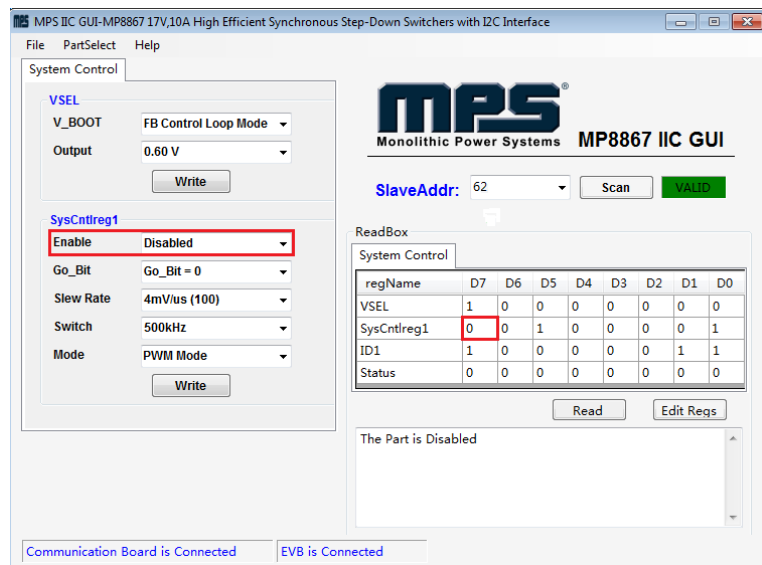

Figure 10: Refer to Datasheet to Translate 0s and 1s
- Click the “Read All” button to update values. The changed information of the item will appear on the right side (see Figure 10).